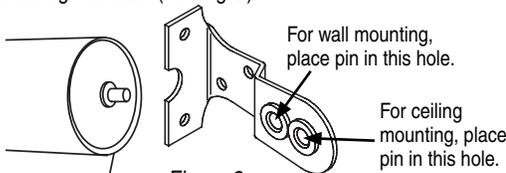

Figure 2
- ② Insert idler end into right bracket (see Fig. 2).